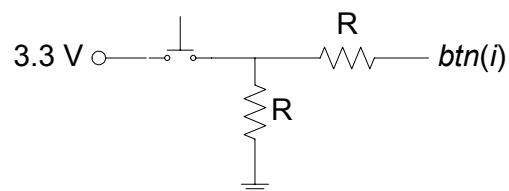

Figure 1.4 Pushbutton connection
- 1.1 The four pushbuttons on the BASYS and Nexys-2 boards are connected to pins on the FPGA using the circuit shown in Fig. 1.4. The value of R is $4.7\text{ k}\Omega$ on the BASYS board and $10\text{ k}\Omega$ on the Nexys-2 board. When the pushbutton is up the two resistors pull the input down to ground and the input $btn(i)$ to the FPGA is read as a logic 0. When the pushbutton is pressed the input is pulled up to 3.3 V and the input $btn(i)$ to the FPGA is read as a logic 1. Create a *.bde* file using Active-HDL that will connect the four pushbuttons to the rightmost four LEDs. Compile and implement the program. Download the *.bit* file to the FPGA board and test it by pressing the pushbuttons.